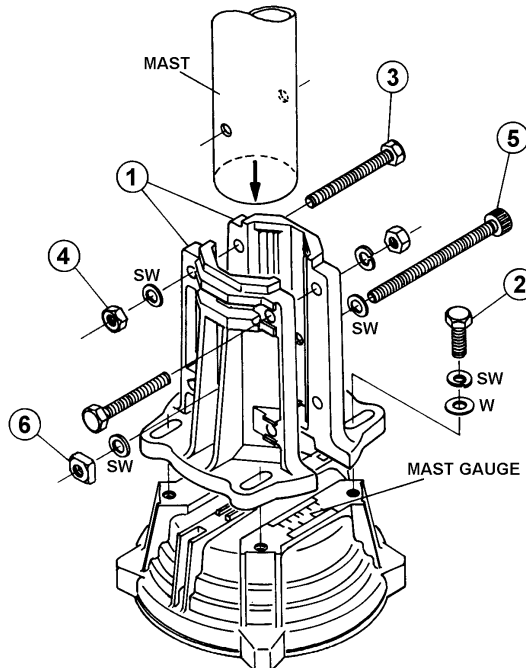

Figure 5
4. Partly tighten the mast clamp ① to the rotator housing using the supplied M8 x 25 bolts ② spring washers and flat washers (see Figure 5).
5. Using a "gin pole" or other raising fixture, insert the antenna mast through the bearing from above, and set the mast in the rotator's mast clamps, then partly tighten the mast clamps using the supplied M8 x 70 bolts ③ and spring washer.